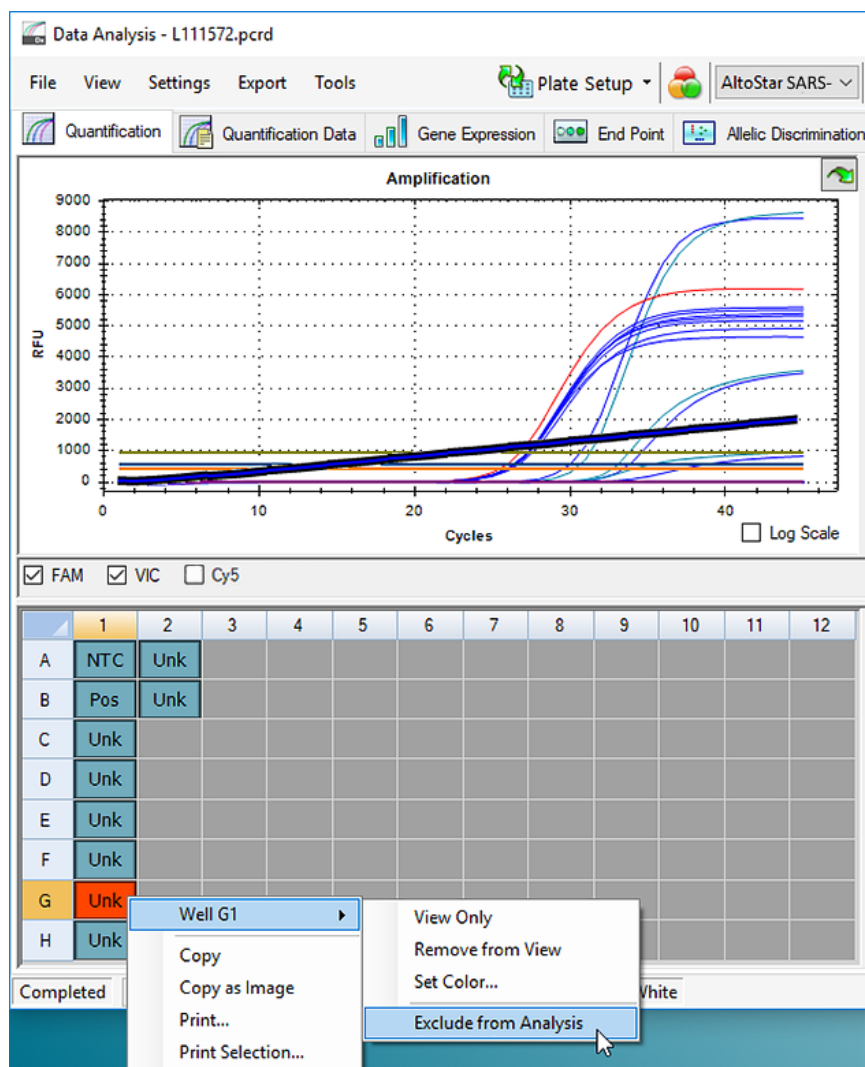

Figure 7: Data Analysis window: exclude well from analysis
3. Click each affected well with the right mouse button and select **Well...** → **Exclude from Analysis** (see figure 7).